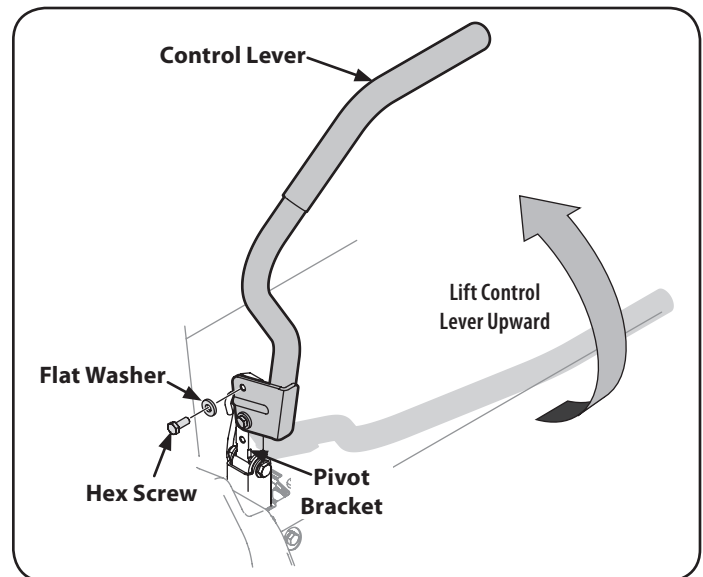

Figure 2
2. Lift and swing that control lever upward until the slotted hole in the lever bracket aligns with one of the holes in the pivot bracket. See "Figure 2".
3. Slide the flat washer onto the hex screw. From the outside, insert the hex screw with washer through the control lever slot and the hole of the pivot bracket. See "Figure 2". Using a 1/2" wrench snug the screw, but do not fully tighten.